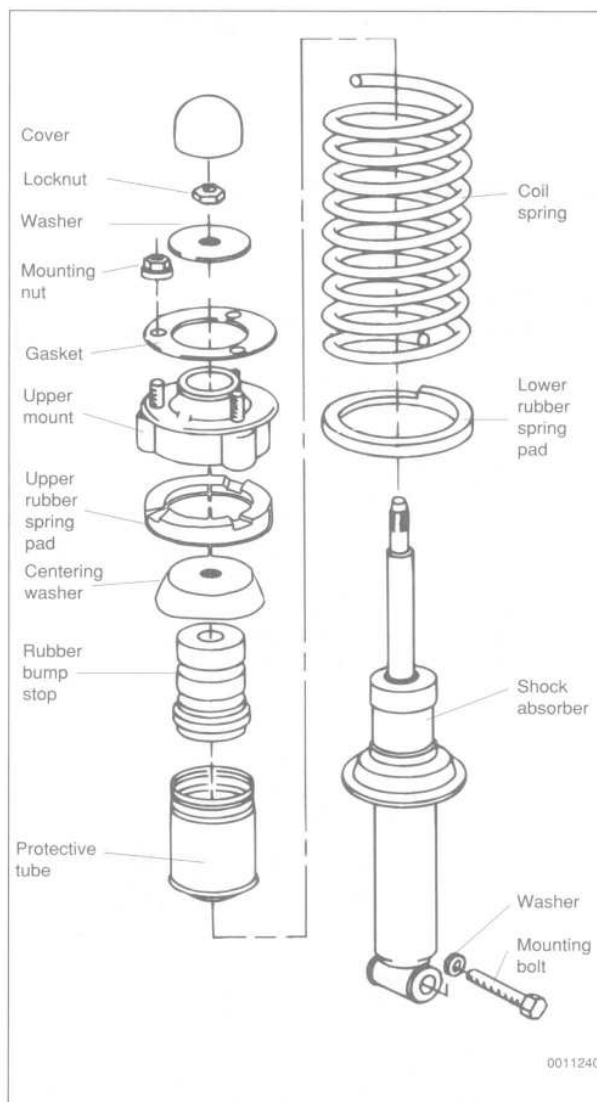

Fig. 5. Exploded view of rear strut assembly.
Replacing the upper strut mount, spring, and strut cartridge requires that the strut first be disassembled. This procedure requires a spring compressor specifically designed for the purpose. Fig. 5 shows the rear strut assembly.
- Compress the spring and install it and related components to the shock absorber, using Fig. 5 as a guide. Use a new self-locking top (center) nut.